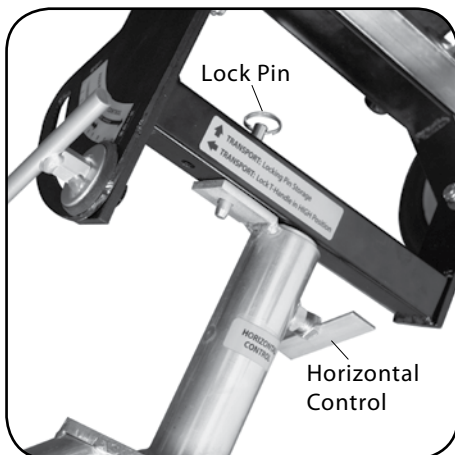

Figure 5 Lock pin inserted to lock throwing head into position for transporting.
IMPORTANT: Lock pin must be removed (See Figure 5) and stored in adjacent hole to left. This will allow machine to pivot horizontally.
5. Remove lock pin and store in adjacent hole to left (See Figure 5).
6. Loosen horizontal control handle (See Figure 5).